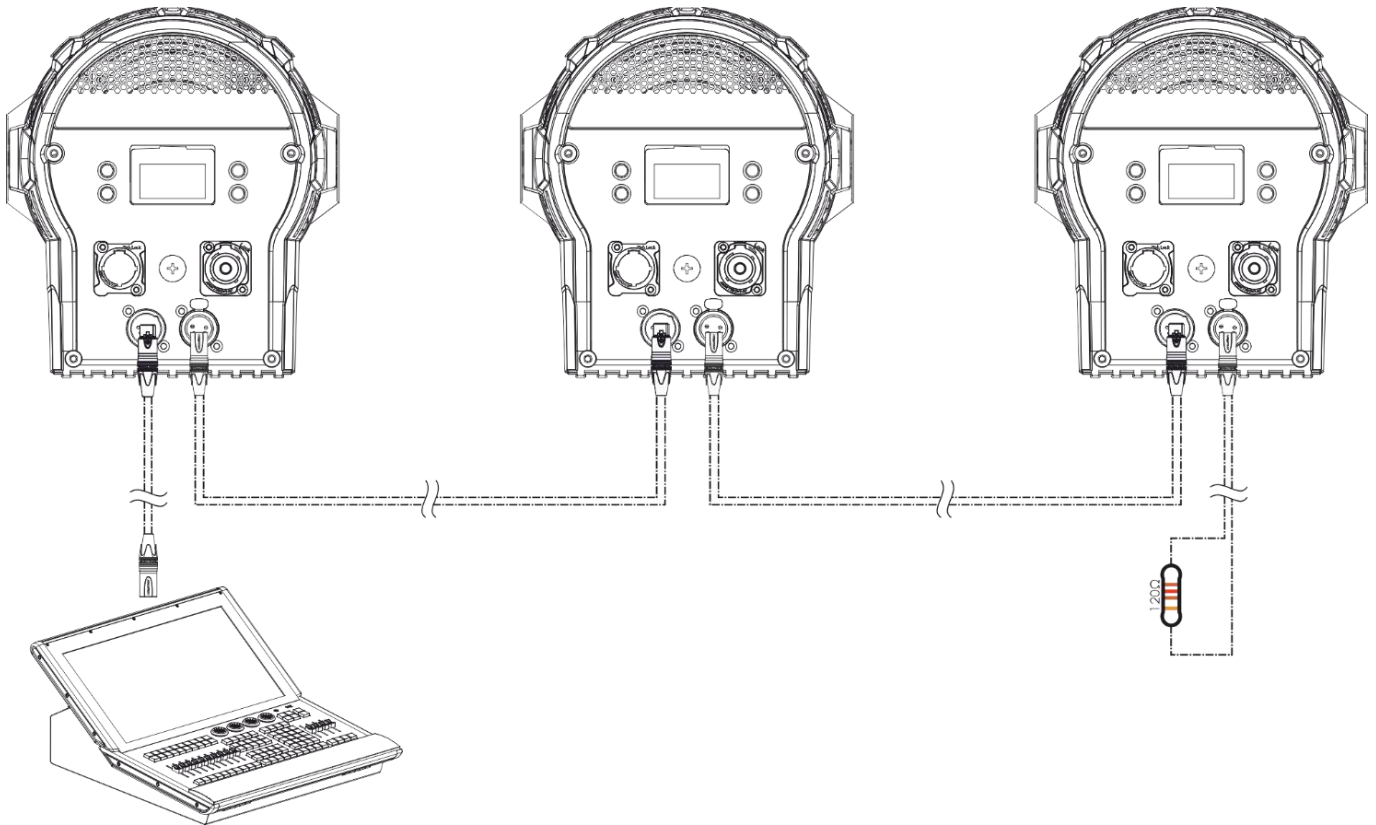

Fig. 10
- 03) Repeat step 2 to connect all devices in a daisy-chain as shown in Fig. 10.